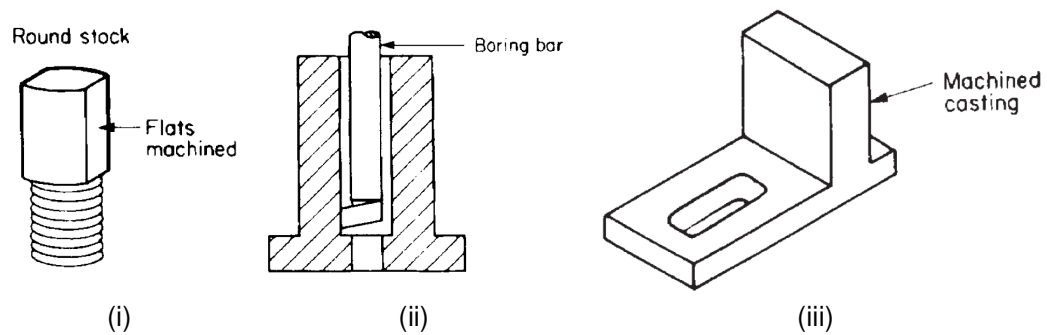

Figure 5
2. The parts shown in figure 5 are to be produced for ease of machining. Suggest suitable modifications in design with its justification.